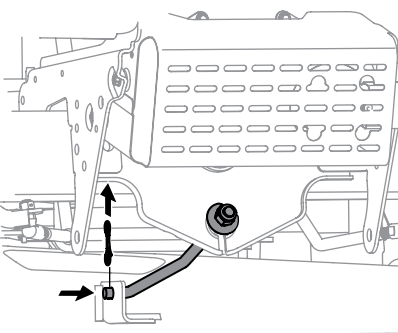

Figure 4-14
9. On **42" and 46" decks**, remove the bow-tie pin securing the deck stabilizer rod to the deck. Slide the deck lift rod from the mounting weldment on the deck as seen in Figure 4-14.